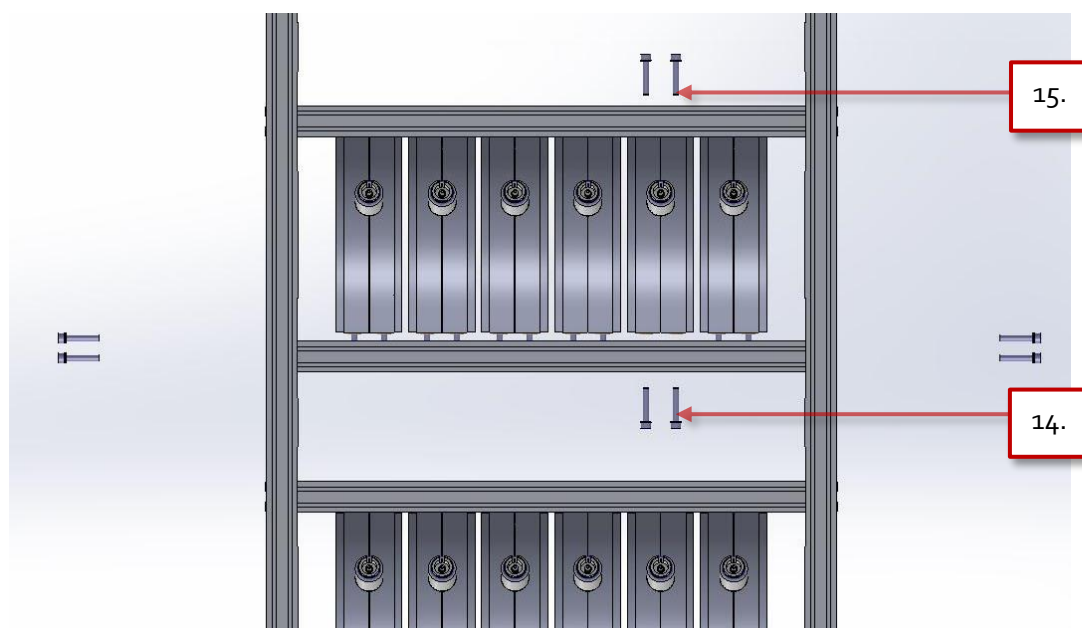

Figure 86 Remove screws on the connection bars
14. Remove the 4 screws (M6) on the bottom connection bar holding the broken reactor, see Figure 86.
15. Remove the 4 screws (M6) on the top connecting bar holding the reactor, see Figure 86.